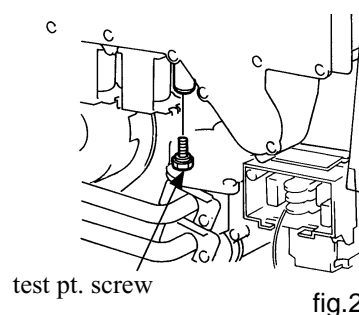

fig.2
5. Attach pressure gauge to burner test point. (fig. 2)